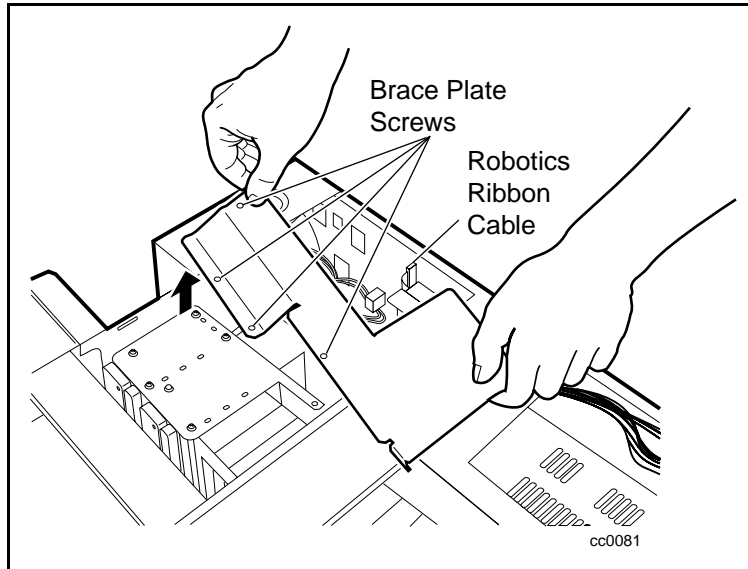

Figure 5-10. Removing the brace plate
3. Unplug the robotics ribbon cable from the controller board (see Figure 5-10).
4. Remove the brace plate (see Figure 5-10).
- Replace the brace plate cover (see Figure 5-10).
3. Remove the brace plate cover (see Figure 5-10).
5. Replace the brace plate cover (see Figure 5-10).
1. Remove the brace plate (see Figure 5-10).
7. Replace the brace plate cover (Figure 5-10).